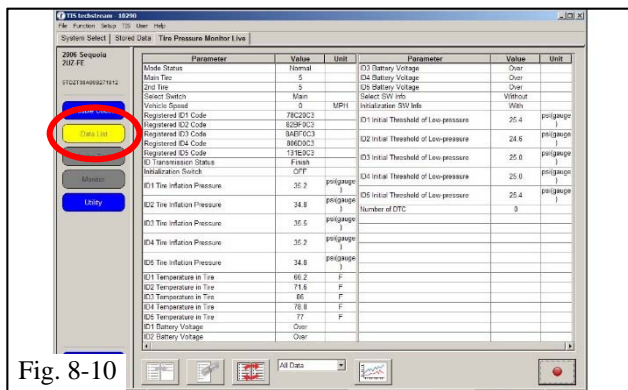

Fig. 8-10
- (l) Select “DATA LIST” to view and confirm the TPMS ID numbers have been correctly registered (Fig. 8-10).